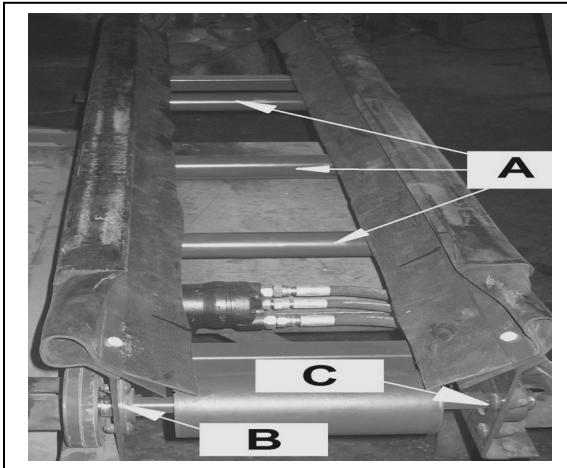

Fig 15
6. Check idler rollers (A) Fig 15 for wear. These are non serviceable items, and must be replaced if any wear has incurred.
7. Item (B) Fig 15. Check for wear.
8. Item (C) Fig 15. Check for wear.
9. Item (D) Fig 15. Check for wear.